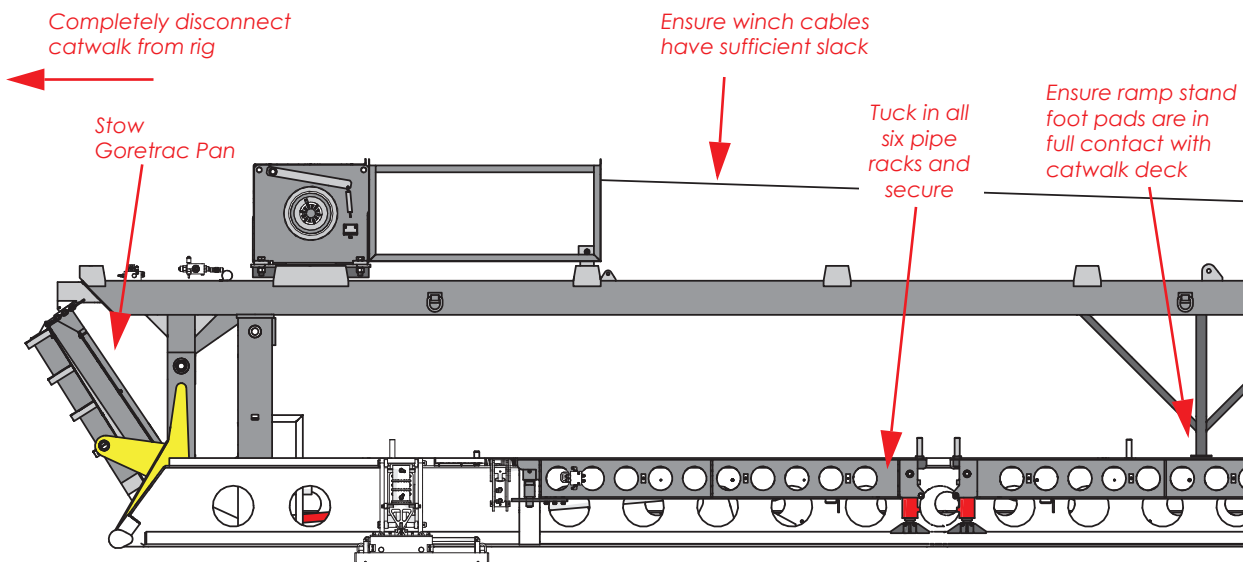

Figure 2: Lower the ramp completely and secure properly before walking the catwalk
Walking the catwalk while the ramp is in a position other than fully rigged-down and resting on the catwalk deck (see Figure 2) is likely to cause premature failure. Commencing walking operations with the ramp raised during windy conditions drastically increases the potential for component failure.
7. Ensure the ramp stand foot pads are in full contact with the catwalk deck (See Figure 2) and do not create a point load on vulnerable areas. If this occurs, place a piece of plywood under the ramp stand foot pads on both sides.